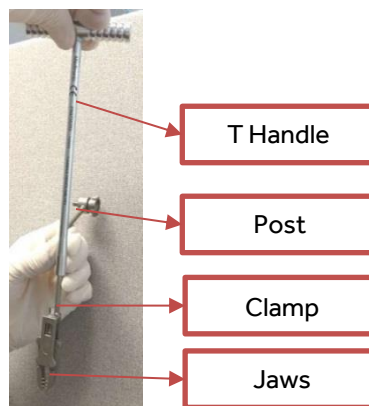

Figure 1
1. Hold the spine clamp by the post with the jaws pointing down. See Figure 1.